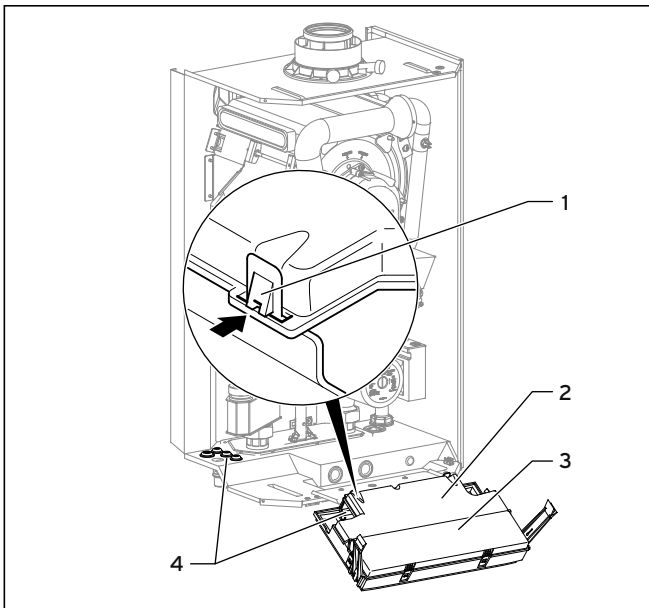

Fig. 5.12 Opening back wall of the electronic box
- Remove the front casing of the boiler (see Chapter 4.8) and tilt the electronic box (3) forwards (see Fig. 5.12).
- Unclip the rear cover (2) of the electronic box at the fastening points (1) and fold it up.
- Guide the mains connection cable through a cable duct (4). Use the grommet to seal the opening.
- Unclip the rear cover (2) of the electronic box at the fastening points (1) and lift it up (see Fig. 5.12)
- Guide the supply lines of the relevant components to be connected through the cable ducts (4) on the bottom of the boiler on the left (see Fig. 5.12)